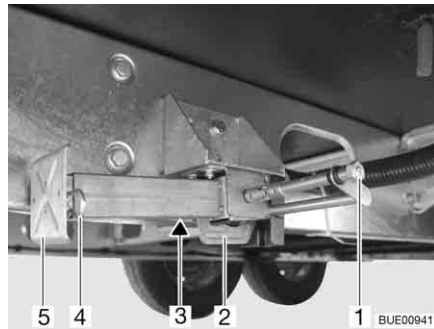

Fig. 32 Steady leg
- Place the socket spanner on the hexagon nut (Fig. 32,1) and rotate until the steady leg is in a perpendicular downward position.
- If the length of the steady leg can be adjusted, remove the splint (Fig. 32,4) out of the support foot extension (Fig. 32,5).
- Place the socket spanner on the hexagon nut (Fig. 32,1) and rotate until the steady leg is clear of the ground.
- Push in the support foot extension (Fig. 32,5) and insert the splint (Fig. 32,4) in the drilled hole in the support foot extension.
- Rotate the hexagonal nut (Fig. 32,1) until the steady leg has swung upwards and the guide (Fig. 32,2) has reached the very end of the slot (Fig. 32,3).